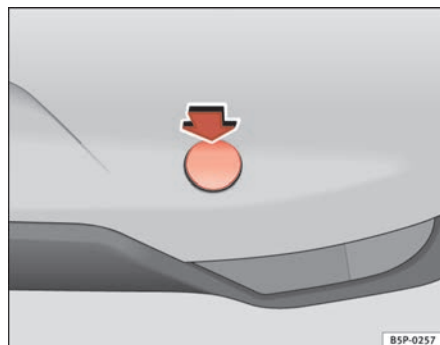

Fig. 207 Cover for towing eye at rear
- Release the cover pressing the upper part in the direction of the arrow ⇒ fig. 207.